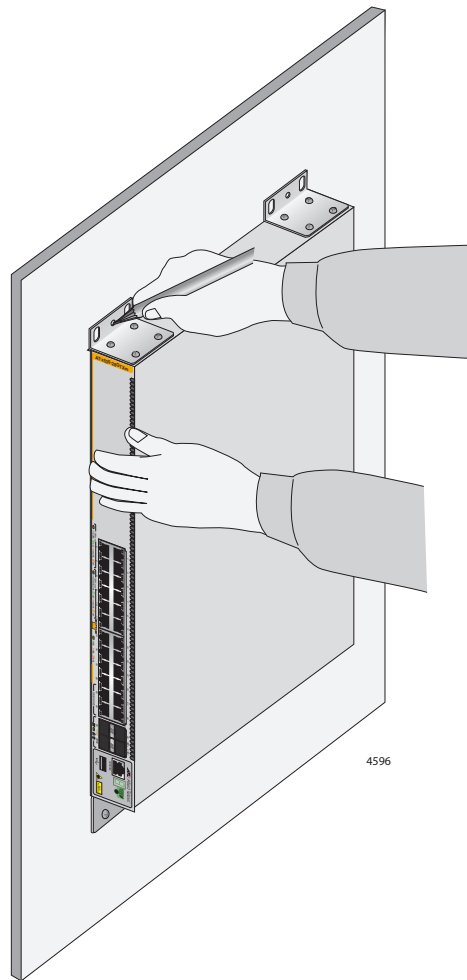

Figure 28. Marking the Locations of the Bracket Holes on a Concrete Wall
3. After attaching the brackets, have another person hold the switch on the concrete wall at the selected location for the device while you use a pencil or pen to mark the wall with the locations of the four screw holes in the four brackets (one screw per bracket). Refer to Figure 28 on page 74.